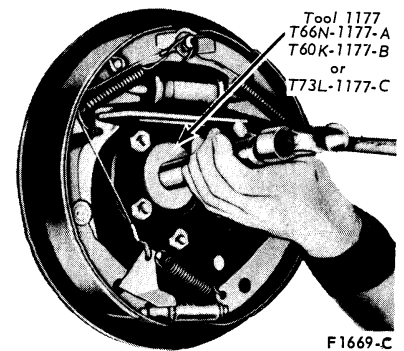

FIG. 4 Installing Rear Wheel Bearing Oil Seal
5. Install the new oil seal with the tools shown in Fig. 4. Wipe a small amount of oil resistant sealer on the outer edge of the seal before it is installed. **Do not put sealer on the sealing lip.**